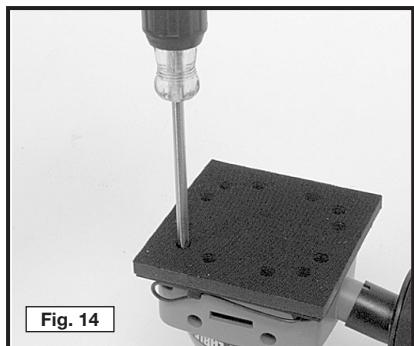

Fig. 14
2. Use a T20 Torx screwdriver to remove the four pad retaining screws (Fig. 14), and lift the foam pad (and its aluminum backing plate), off the sander.